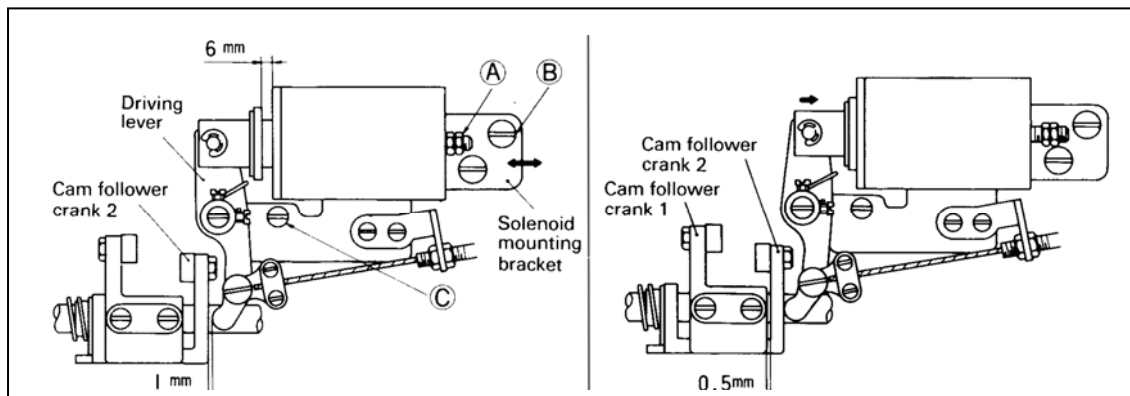

Fig.33
4) Installing the thread trimmer solenoid unit (Fig.33):